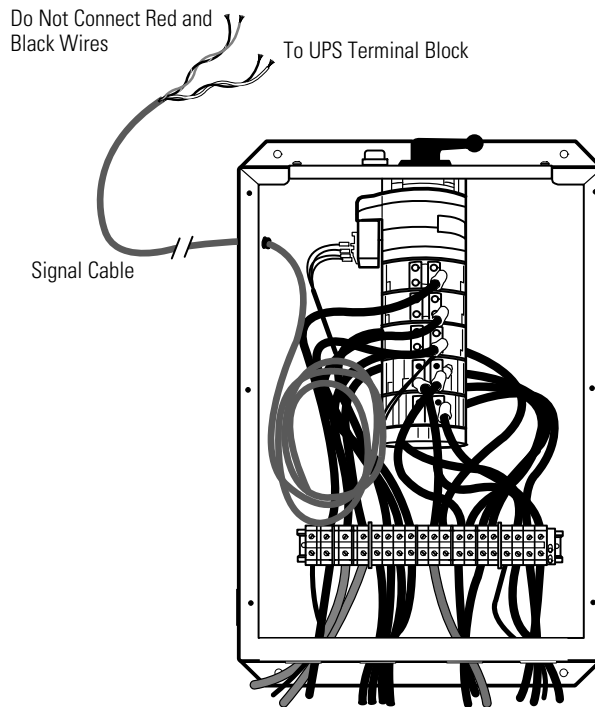

Figure 28. Signal Cable Installation
10. Route the gray signal cable through the grommet on the left side of the bypass switch cabinet (see Figure 28). Connect the white and black pair of wires to TB1-2 (the A/B maintenance bypass auxiliary contacts) on the UPS terminal block.